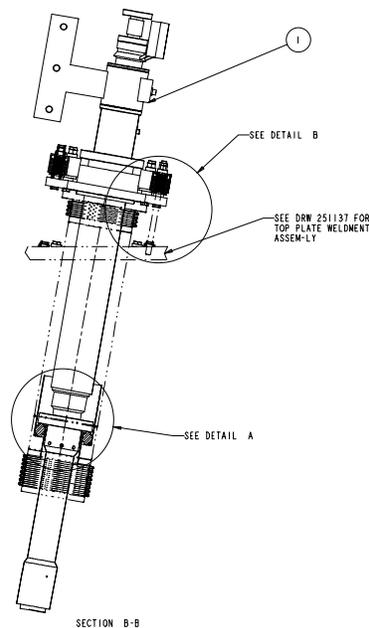

Figure 1.21 HTS Lead in chimney.
- 1.21 Install the lead in the chimney per Figure 1.21 until the lower sealing flange bottoms out. The flag should be pointed up the 10° slope of the feed box.